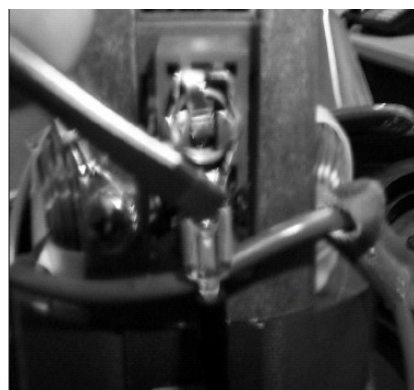

Fig. 2
4. Remove the wire terminal from carbon brush housing. **See Fig. 2**